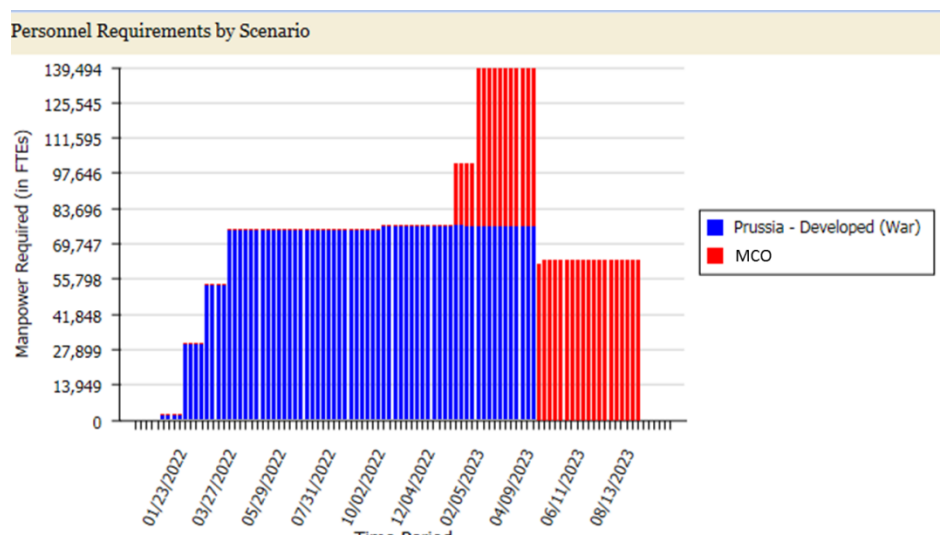

Figure 6. Personnel Requirements by Scenario for the 16-week overlap analysis.
- d. Click on Graph: Total Personnel Requirements by Scenario. This graph shows the total manpower requirements by mission scenario. It does not include Additional Support Need values. Check that the graph looks like Figure 6: